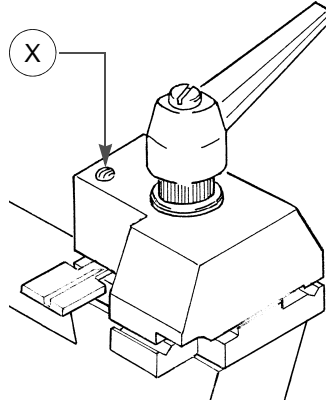

Fig. 14
- 2) fasten the key using the screw (X) situated at the top of the clamp (fig.14).